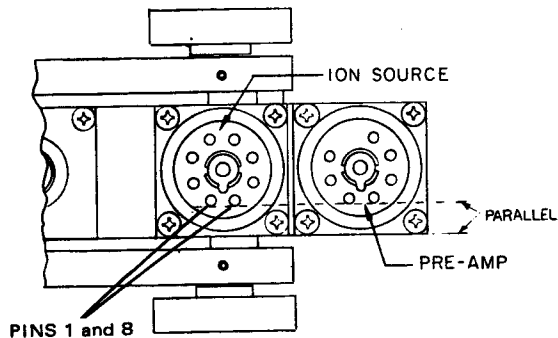

Figure 6-12.
10. Wipe the new O-ring and mating surfaces with clean lint-free cloth and place new ion source in cavity. Locating pin should be approximately in center of guide hole. Be sure that pins 1 and 8 are parallel to the sidewall of the spectrometer tube (Figure 6-12). Tighten hold-down flange evenly and firmly. Important (A straight edge held against pins 1 and 8 of both octal arrays is a convenient way to assure parallelity.)